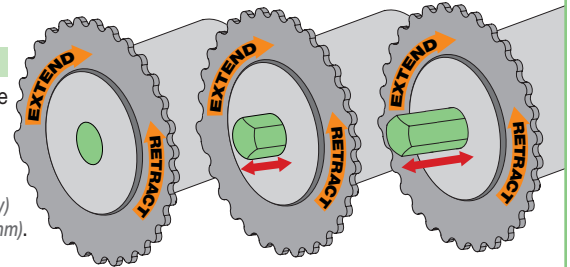

Figure 5
Section 5.1 - Operating the Retractable Coupler Shaft (Fig. 5)
3. Ensure the operator-end fabric/roller assembly's coupler shaft is completely retracted (see "Operating the Retractable Shaft" and Fig. 5).
4. Raise first rear/upper fabric/roller assembly into place. **Installer #1** inserts operator end of fabric/roller assembly into operator-end bracket. **Installer #2** lifts the coupler end up next to the coupler bracket assembly, then extends the coupler shaft to the intermediate position by rotating the ring clockwise 1/3 of a turn (see "Operating the Retractable Shaft" and Fig. 5). This will hold the first unit in place during installation of the next panel.
3. The end of the previously-installed coupler shaft should be flush with the outside edge of the bearing. If it is extended beyond the bearing, you can retract the coupler shaft of the previously installed roller to the intermediate position (see "Operating the Retractable Shaft" and Fig. 5).
5. Installer #1 fully extends coupler shaft of previously installed roller by rotating the metal ring clockwise about 180° when viewing the face of the coupler assembly (see "Operating the Retractable Shaft" and Fig. 5), until the shaft extends fully into the receiver of the fabric/roller assembly being installed.
6. Installer #2 extends the coupler shaft of the fabric/roller assembly being installed to the intermediate position by rotating the ring clockwise about 120° (see "Operating the Retractable Shaft" and Fig. 5) so the end of the shaft is flush with the outside edge of the bearing.
3. Retract coupler shaft of previously installed roller to the intermediate position (see "Operating the Retractable Shaft" and Fig. 5). The end of the coupler shaft should be flush with the outside edge of the bearing.
6. Installer #2 fully extends coupler shaft of previously installed roller by rotating the metal ring clockwise about 1/2 of a turn when viewing the face of the coupler assembly (see "Operating the Retractable Shaft" and Fig. 5), until the shaft extends fully into the receiver of the idler-end fabric/roller assembly.